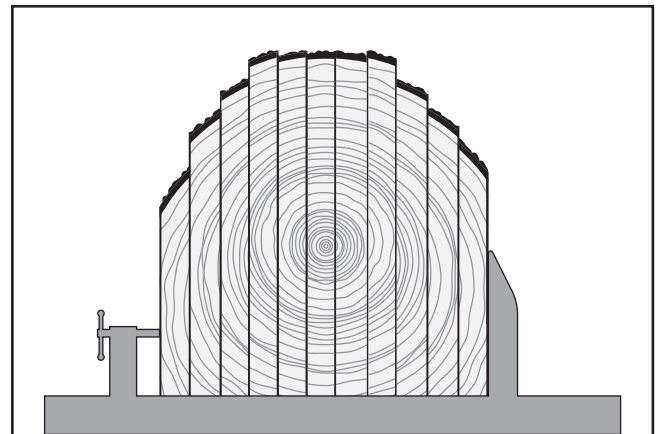

Figure 48. Flitches secured to track in preparation for second edging.
5. Clamp single-edged flitches to track bed, using flat edges and log supports to ensure flitches are perpendicular to track (see **Figure 48**).